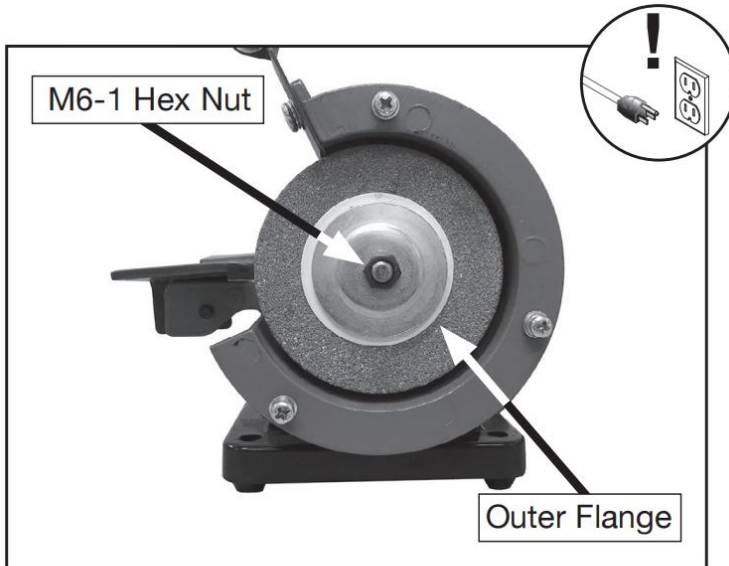

Figure 15. Outer wheel guard removed to access grinding wheel.
4. Remove M6-1 hex nut (see **Figure 15**) .